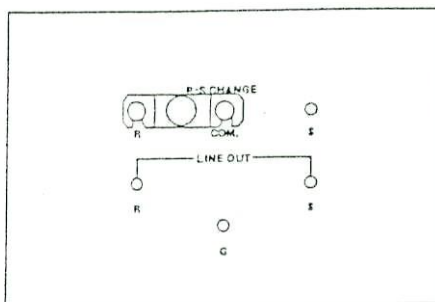

Fig.18
3. Set the Surge injection phase selector ⑯ as Fig. 18.